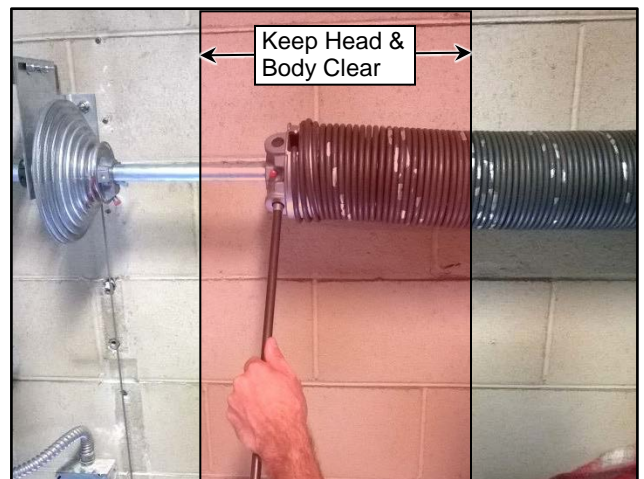

Figure 79
2. Assume the cone will slip or explode as you wind and unwind the spring. Keep your head & body out of the path of the winding cone. Keep your hands away from the cones so that if and/or when the winding bar slips out of the cone and your hand jerks up, the cone doesn't rip your flesh or wrap your clothes and body parts into the spring. (See Figure 79)